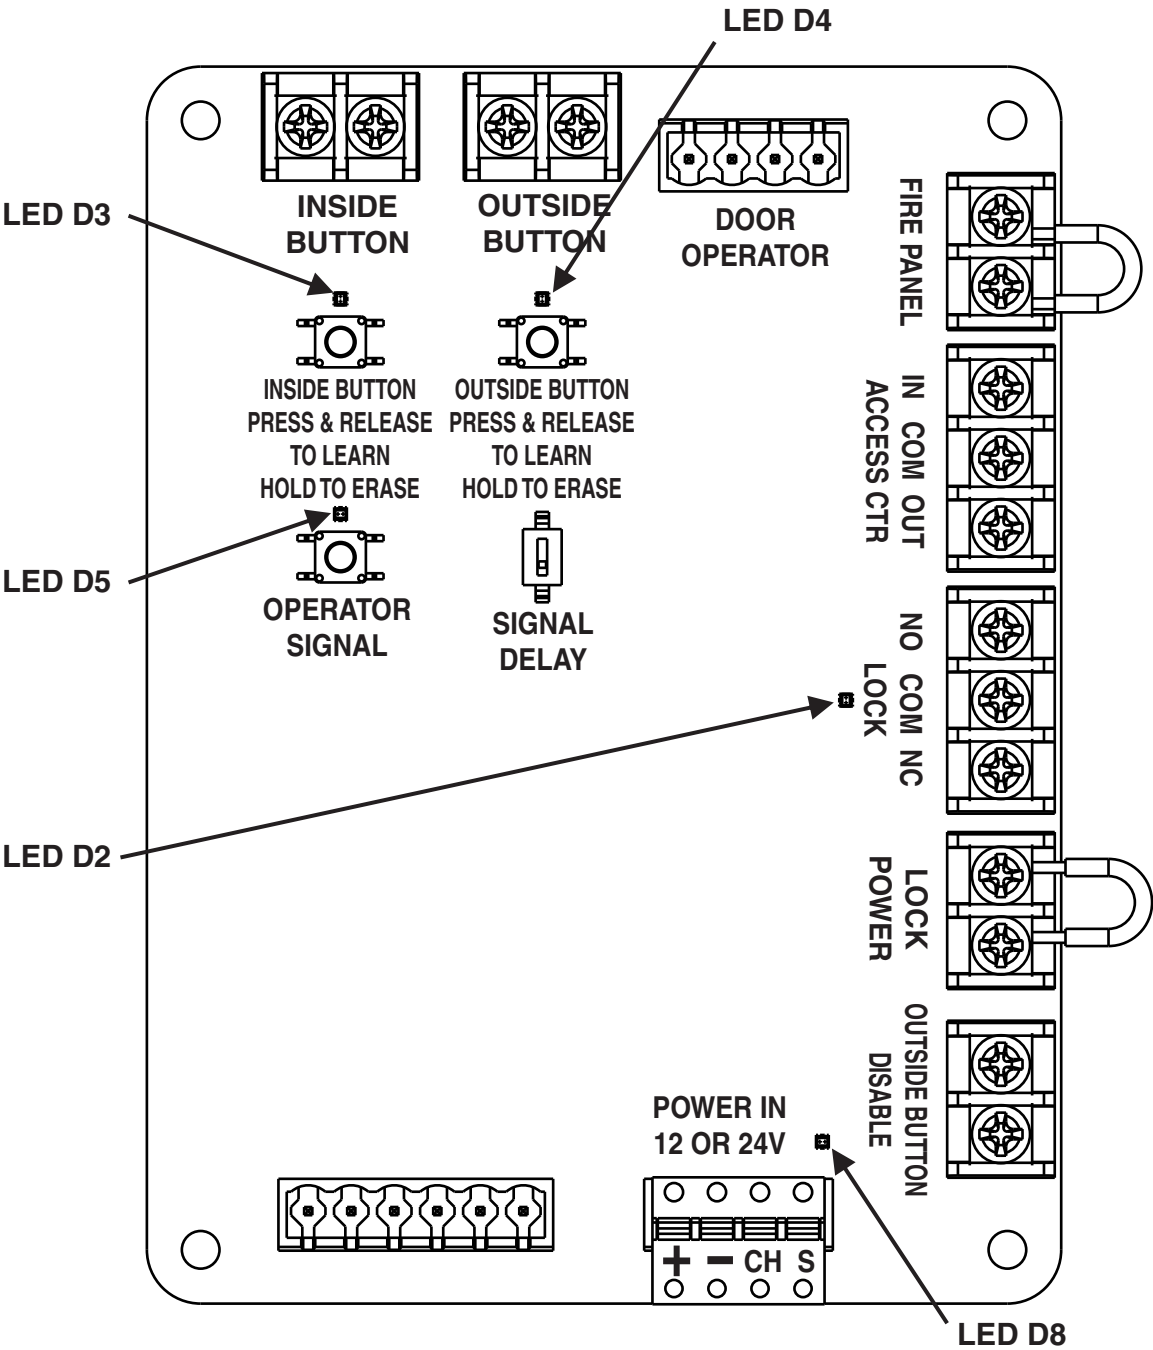

Figure 4
2. Refer to Figure 4 and PRESS and RELEASE the "OPERATOR SIGNAL" button on the WIM.
1. Refer to Figure 4. If the pushbuttons will be hard wired, connect the INSIDE and OUTSIDE pushbuttons to the WIM module contacts labeled INSIDE BUTTON and OUTSIDE BUTTON.
- a. Refer to Figure 4 and PRESS and RELEASE the "INSIDE BUTTON" button.
- a. Refer to Figure 4 and PRESS and RELEASE the "OUTSIDE BUTTON" pushbutton.
1. Refer to Figure 4 and PRESS and HOLD the INSIDE BUTTON pushbutton on the WIM for 5 seconds
3. Refer to Figure 4 and PRESS and HOLD the OUTSIDE BUTTON pushbutton for 5 seconds
3. An optional signal delay is provided to add a one second time delay between receiving an activate signal and sending an activate signal to the door operator. This allows additional time for the lock to unlock before the door starts to unlock before the door starts to open. If the lock delay is required, refer to Figure 4 and move the SIGNAL DELAY